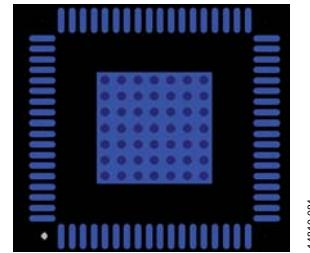

Figure 88. Exposed Pad Layout Example—Top View
- Place vias such that all layers of copper are connected, allowing for efficient heat and energy conductivity. For an example, see Figure 88, which shows 49 vias arranged in a 7 x 7 grid in the pad area.